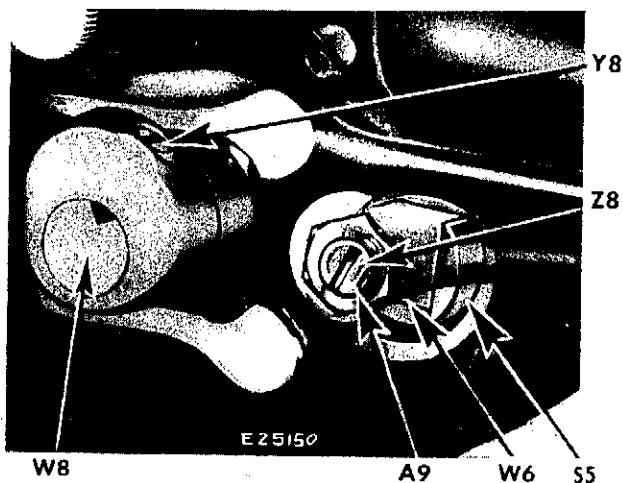
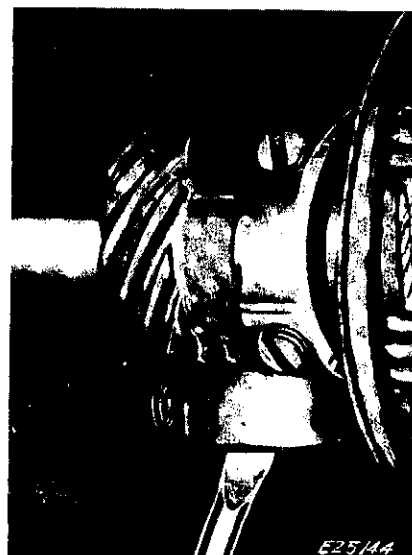

Fig. 159. X-ray View of Block and Slide
Fig. 160. Removing End Play from Shaft
2. Loosen set screw **Y8**, **Fig. 159** and remove cam from shaft **W8**.
4. Lift fork from machine while guiding slide block **W6**, **Fig. 159** from slide.
1. While guiding the two bright bearing surfaces of slide block **W6**, **Fig. 159** into slide **S5** on right mechanism, be certain shaft **W8** is between prongs of vibrator fork.
3. Set cam on shaft **W8**, **Fig. 159** with set screw **Y8** over the notch in shaft and two edges of fork over the cam surface.
4. While pressing cam in **Fig. 159** toward fork, push gear in **Fig. 160** toward cam with a screwdriver to eliminate excessive play and noise. Securely tighten set screw **Y8**, **Fig. 159** without binding machine. If machine binds, reset cam.